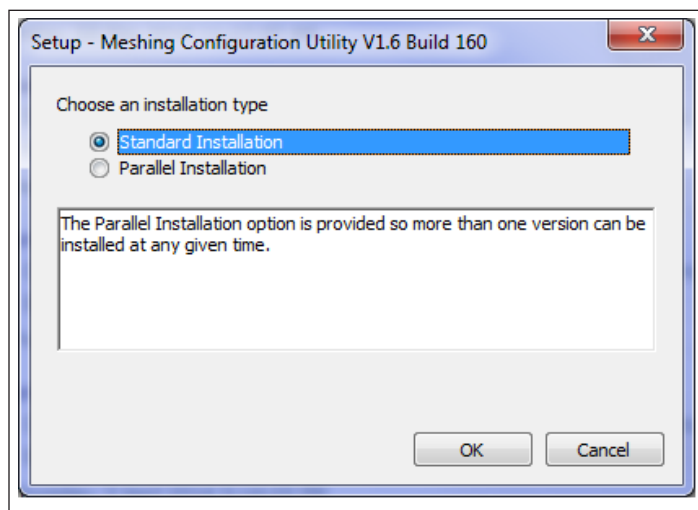

Figure 23.
- Follow the on-screen instructions to install the software (see **Figure 23**).